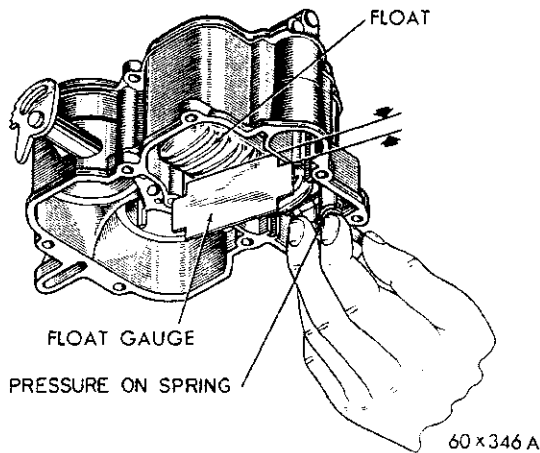

Fig. 19—Measuring the Float Setting
(1) Invert the main body so that the weight of the floats only is forcing the needle against the seat. Be sure hinge pin does not drop out of the float hinge.
(2) Using Tool 73725 or a "T" scale, measure the float level, as shown in Figure 19. There should be $\frac{1}{8}$ inch from the surface of the fuel bowl to the crown of the float at the center.